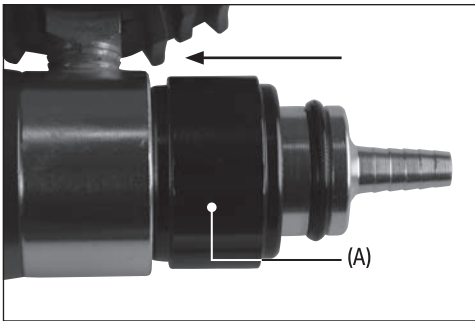

Fig. 1
Move the sliding sleeve (A) away from the nozzle end of the pump until it touches the main body (Fig.1).